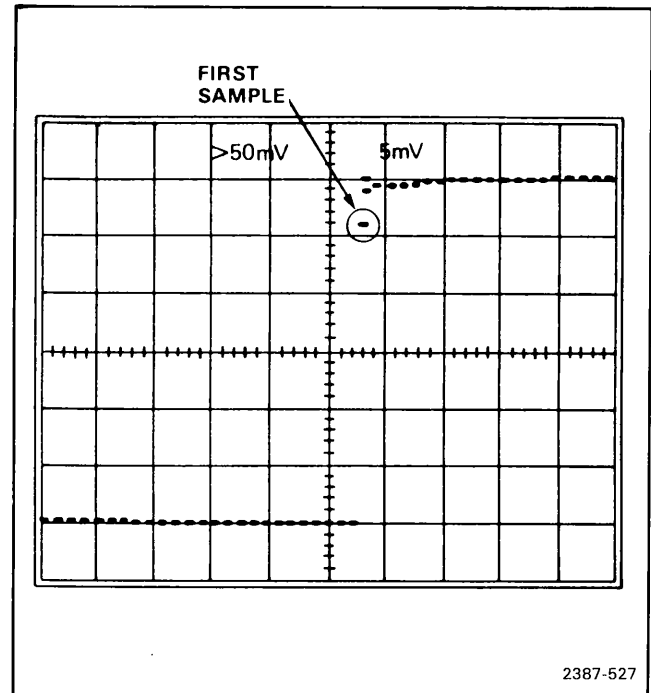

Fig. 5-26. Aberration waveform showing undershoot.
- Change the A Horiz 7A16A Volts/Div to 10 mV and center the waveform front corner to obtain a display similar to that shown in Figure 5-26.
Figure 5-26 is an example of a waveform that is just within the -4% undershoot tolerance. The first sample dot is ignored in Figure 5-26.
Figure 5-26 is an example of a waveform that is just within the -4% undershoot tolerance. The first dot is ignored in Figure 5-26.